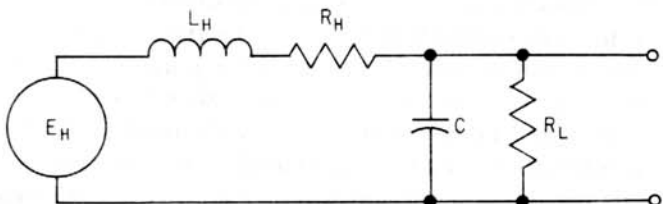
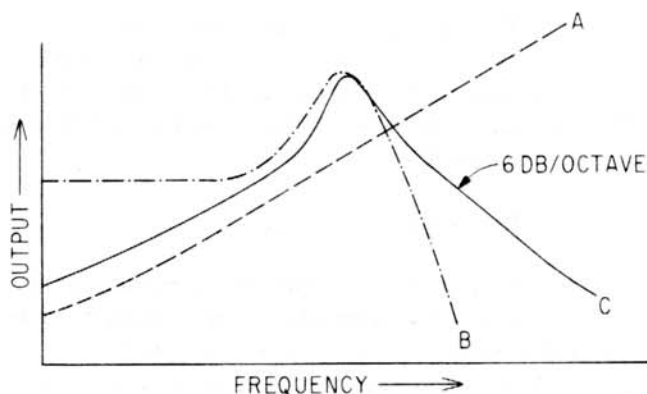

Fig. 5-2. Equivalent Circuit--Head and Input
Fig. 5-3 Head Output
An equivalent circuit of the reproduce head and amplifier input is given in Figure 5-2. In this illustration, the voltage output of the head (E_H) is shown working into a low pass filter consisting of the head inductance (L_H) and a capacitance (C) which can be distributed capacitance of the head winding, cable, and amplifier input. The Q of this filter is determined by the eddy current losses in the head and the resistance of the load (R_L). The output of the head itself rises 6 db per octave (curve A, Figure 5-3). Disregarding the effect of R_L , the response of the filter is indicated in curve B of Figure 5-3. Adding these two curves, the resultant output of the head is indicated by curve C of Figure 5-3.
As shown in Figure 4-5, if R1 is small and the Q of the filter circuit is low, the resultant curve C of Figure 5-3 can be flattened to provide a relatively constant output. Instead of using a normal shunting resistor across the amplifier input--which would result in an unacceptable signal-to-noise ratio because of the high thermal noise associated with such a resistor--the same effective low input resistance can be achieved by using a high gain pre-amplifier with very heavy feedback. This creates a virtually noise-free shunting resistor at the amplifier input.